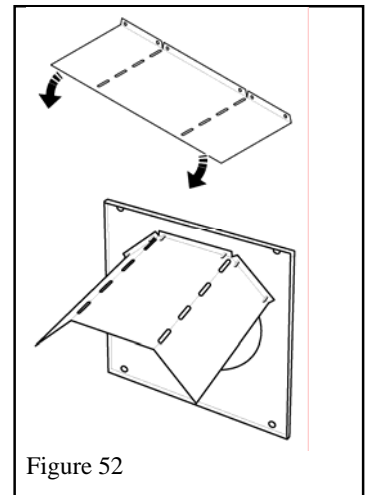

Figure 52
3. Drill through the terminal outer tube and appliance outer collar for #6 screws. See figure 52. *Make sure that the drill does not penetrate the inner tubes.*
1. Bend the wall shields and screw to the inside of the wall plates with 6 thread cutting screws per plate. see figure 52.